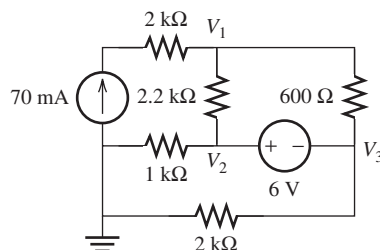

FIGURE P3.49 Circuit for Problem 3.49.
3.49 (H)* Find V_1 , V_2 , and V_3 in Figure P3.49.